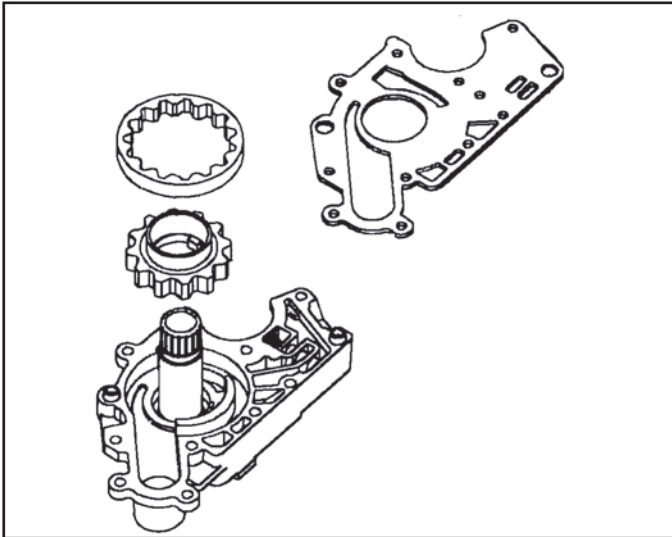

Figure 145
1. Remove the wear plate and pump gears from the pump housing and inspect the housing, gears and plate for wear. Replace worn or damaged parts (See Figure 145).